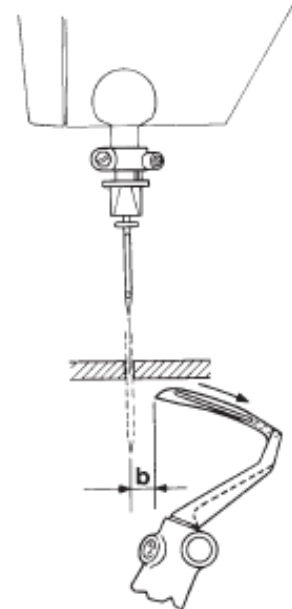
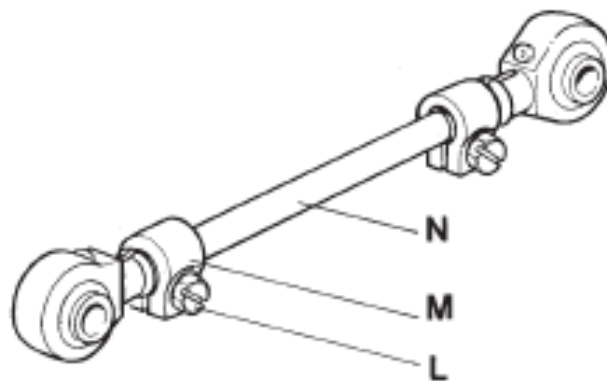

FIG. 4
FIG. 5
- A. To obtain dimension “b” (Fig. 4) move the looper to the extreme right, slacken screw L (Fig. 5) of clip M and operate on the N rod of the master connection rod (Fig.5) until the dimension prescribed in the phase instructions is obtained.